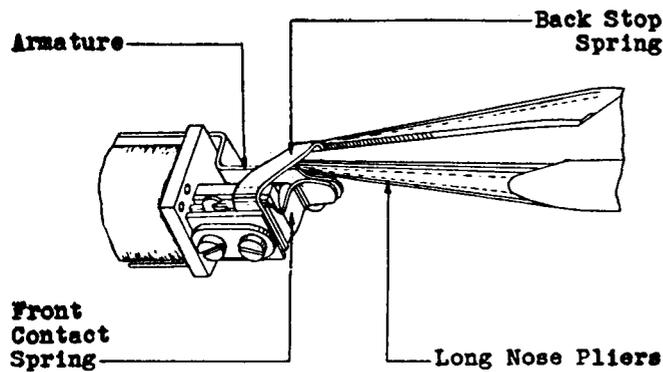

Fig. 7—Method of Adjusting for Contact Separation of 194-type Relays
(8) **194-type Relays:** If the contact separation is unsatisfactory, adjust the backstop as required with the long-nose pliers as shown in Fig. 7.